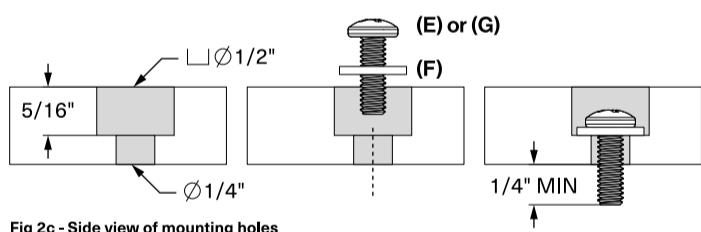

Fig 2c - Side view of mounting holes
- Drill 1/2" (12mm) diameter counterbores 5/16" (8mm) deep at M1, M2, and M3. Then drill 1/4" (6mm) through holes at each mounting hole (M1, M2, M3) through the center of the counter bore [Fig 2c].